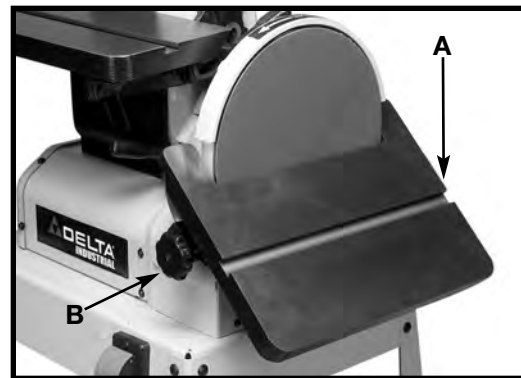

Fig. 34
The table (A) can be tilted 45 degrees down (Fig. 34), by loosening the lock handle (B), tilting the table (A), and tightening lock handle (B). The degree of tilt is determined by the scale and pointer.